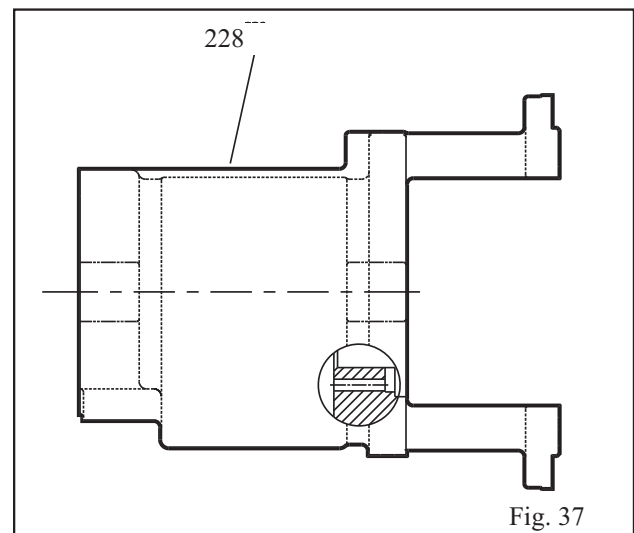

Fig. 37
12. Prepare bearing frame (228) for either oil or grease oil lubrication as follows:
- **Oil Lubrication** - Ensure oil return is fully open (No plug) (Fig. 37 and 38).